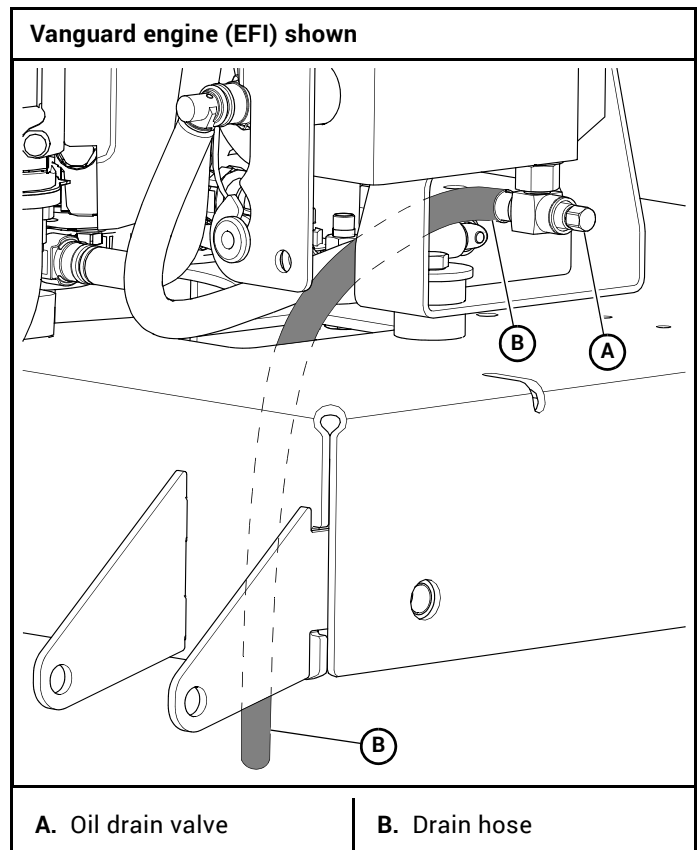

Figure 4-13
1. Locate the oil drain valve on the bottom of the oil tank. Figure 4-13
4. Attach one end of the hose onto the oil drain valve nipple. Make sure the hose is pushed all the way onto the valve. Figure 4-13